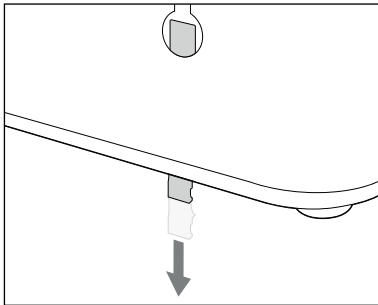

Fig. 1
3. On the back side of the appliance, the right hanger **7** has a locking pin **8** to prevent the appliance from coming free of the screws **9**. Pull the locking pin **8** down slightly out of the hanger **7** (see Fig. 1).